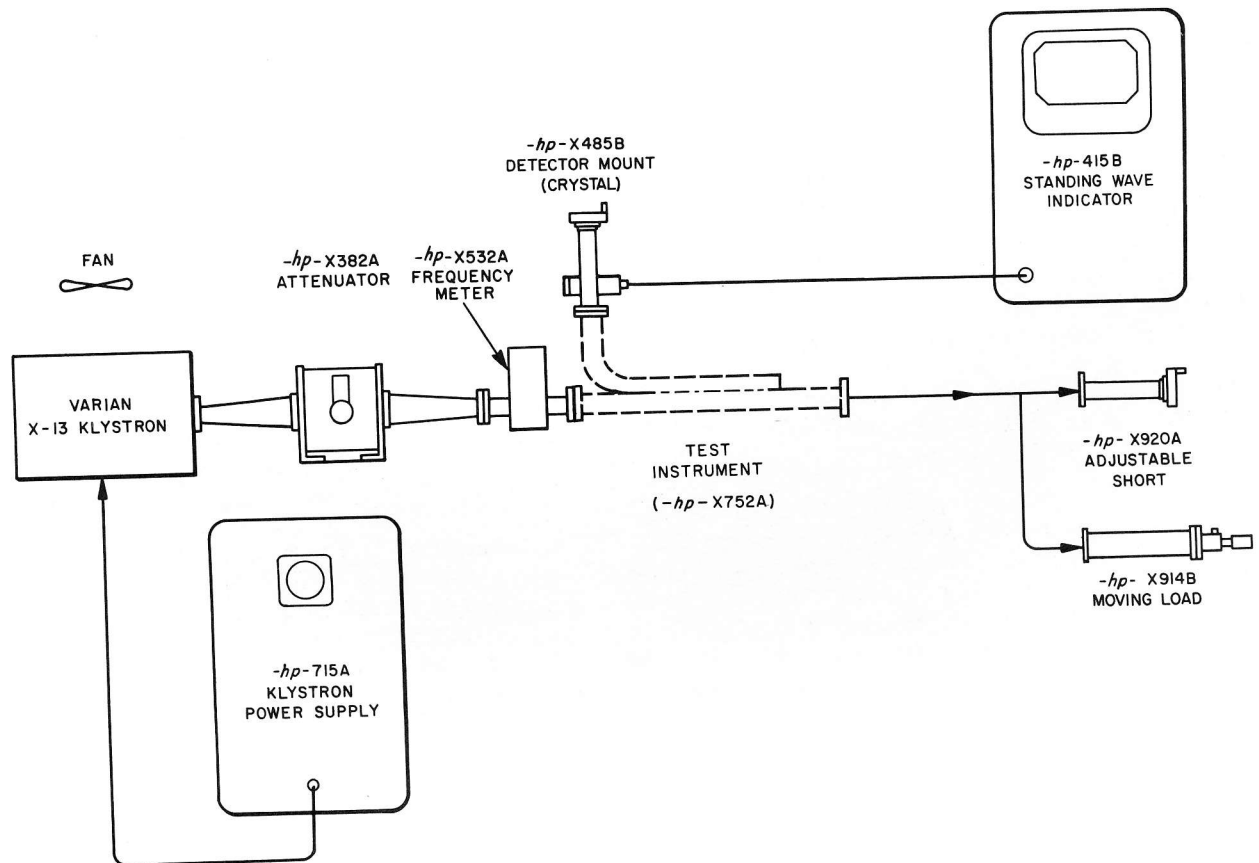

Figure 2-2. X752A Directional Coupler Directivity Calibration
- 1) To check the directivity of the X752A, connect the equipment as shown in Figure 2-2. Place the X920A Short on the end of the X752A.